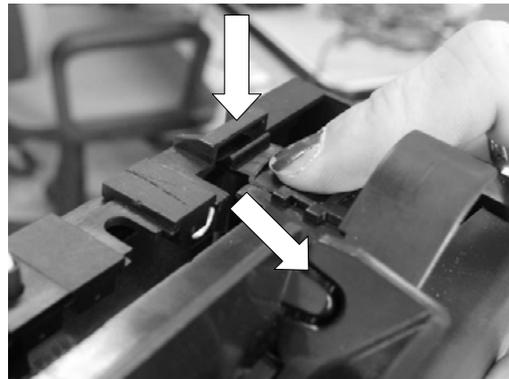

Fig. 2
3. Press the release lever (*Fig. 2*), then pull the selector forward.